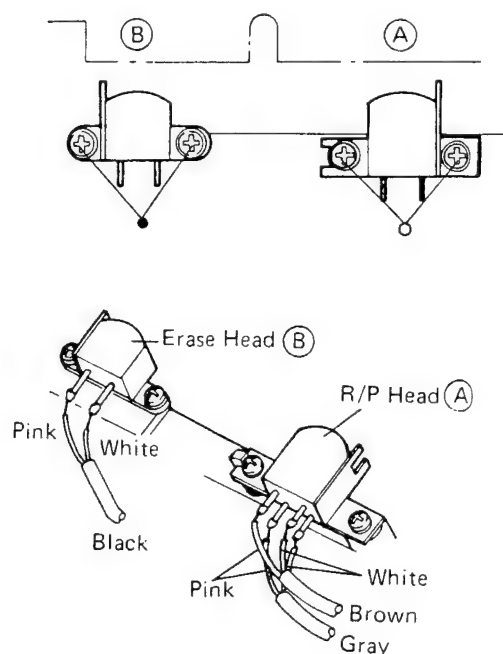

Figure 16
- (2) Remove two screws marked "○" and wires from both sides of the R/P head "A" as shown in Figure 16, and it can be removed, with head P.C. Board. Remove the head from the P.C. Board with a soldering iron.
- Remove two screws marked "●" and wires from both sides of the erase head "B" as shown in Figure 16, and it can be removed.
- (3) After finishing assembling, adjust head azimuth, height and tilt angle.